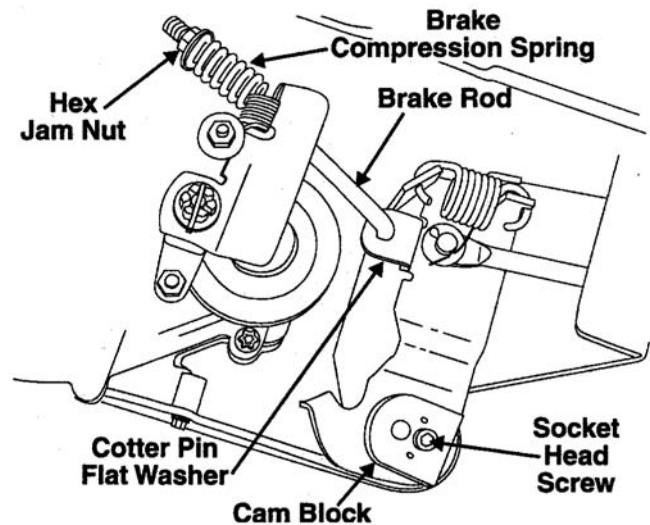

Figure 6-151. Brake Adjustment
1998 800 Series Hydrostatic (See figure 6-151)
1. Measure the length of the brake compression spring. See figure 6-151.
4. If the measurement is not 1/4" shorter than the first measurement, tighten the hex jam nut until you have a 1/4" difference in the two measurements. See figure 6-151.